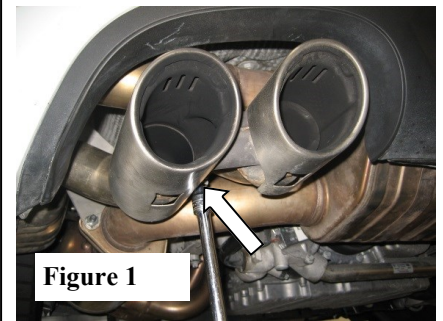

Figure 1
1. Loosen bolt and remove left-side and right-side tips from rear muffler assembly. (See Figs. 1 & 2)